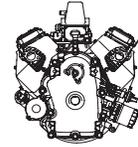

Figure 7-2. Testing DC Output Wire
4. Attach RED test lead probe to DC output wire terminal (Red Wire), Figure 7-2.